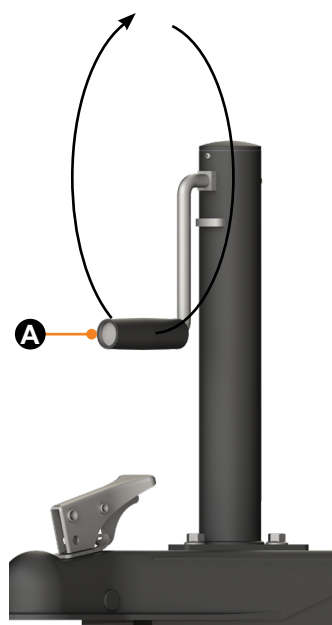

Fig.6
1. Rotate the crank handle (Fig.6A) clockwise to extend the jack leg (Fig.6).